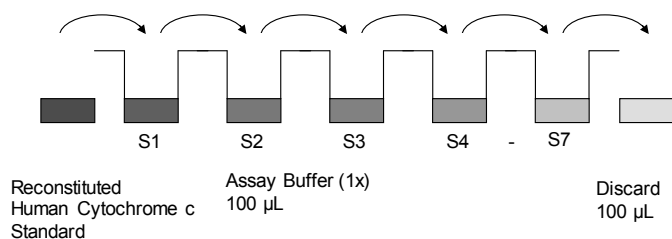

Fig. 7 Dilute standards - microwell plate
5. Standard dilution on the microwell plate (Alternatively the standard dilution can be prepared in tubes - see "External standard dilution" on page 3): Add 100 μ L of Assay Buffer (1x) in duplicate to all standard wells. Pipette 100 μ L of prepared standard (see Preparation of Standard "Human Cytochrome C standard" on page 3, concentration = 10.00 ng/mL) in duplicate into well A1 and A2 (see Table 1). Mix the contents of wells A1 and A2 by repeated aspiration and ejection (concentration of standard 1, S1 = 5.00 ng/mL), and transfer 100 μ L to wells B1 and B2, respectively (see Figure 7). Take care not to scratch the inner surface of the microwells. Continue this procedure 5 times, creating two rows of human Cytochrome C standard dilutions ranging from 5.00 to 0.08 ng/mL. Discard 100 μ L of the contents from the last microwells (G1, G2) used.